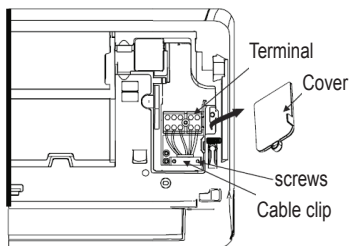

fig. 16 -
1. Open the front panel of the unit ("fig. 16 -")